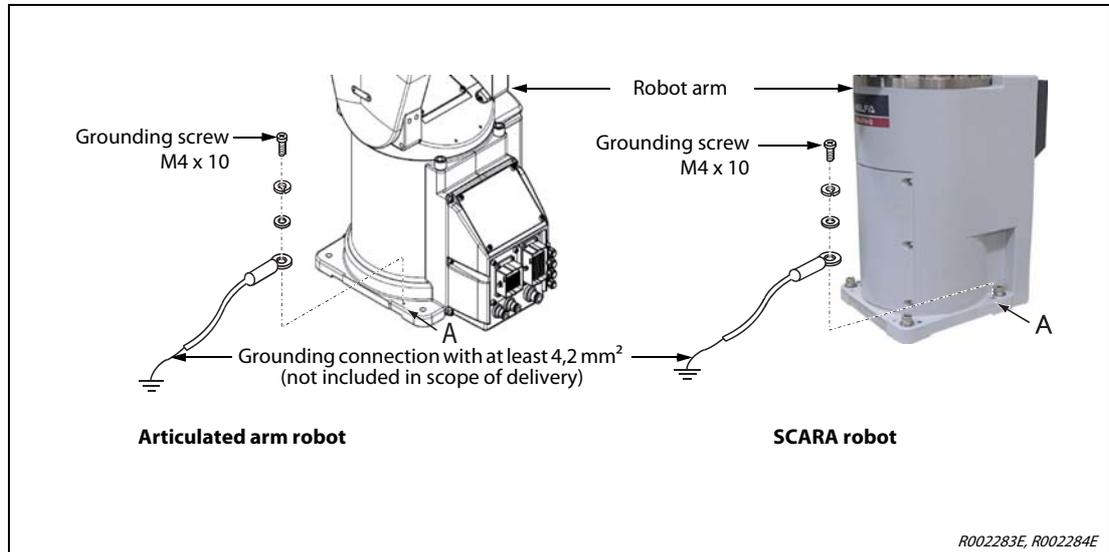

Fig. 3-16: Grounding the robot arm
- The robot arm is grounded at an M4 threaded hole (see Fig. 3-16) on the base area.
- ① Use a grounding cable with a minimum cross-section of $4,2 \text{ mm}^2$.
- ② Check the area around the grounding screw (A) for deposits and remove any using a file.
- ③ Fix the grounding cable with the grounding screw (M4 x 10) to the grounding connection of the robot arm (see here Fig. 3-16).